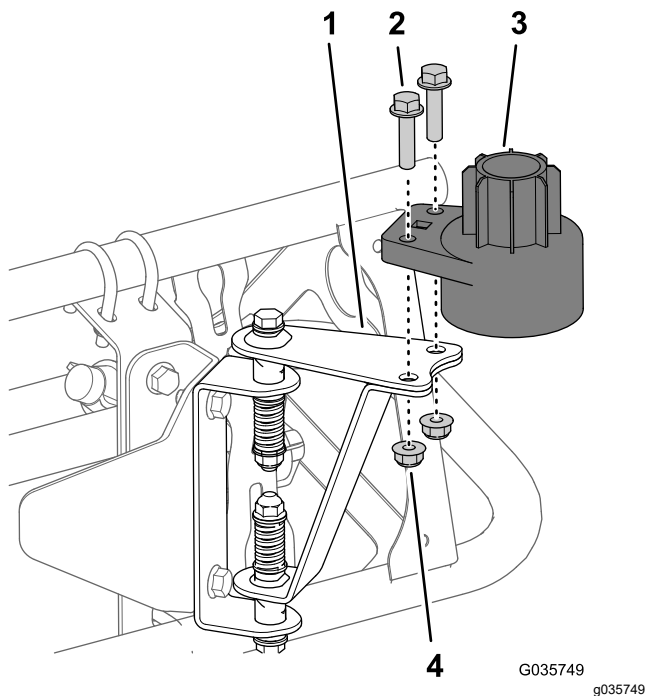

Figure 20
1. Install the lower sensor housing onto the sensor mounting hardware (Figure 20) with 2 bolts (5/16 x 1-1/4 inches) and 2 locknuts (5/16 inch).